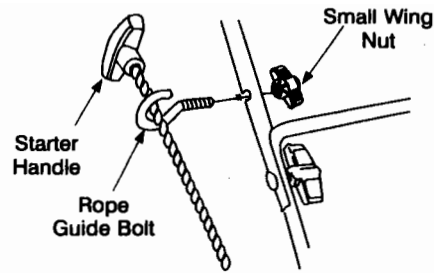

Figure 4
5. Secure with small wing nut. See figure 4.
The recoil starter handle is attached to the upper handle. See Figure 4. The recoil starter is used to start the engine when the self starter is in the de-energized mode.